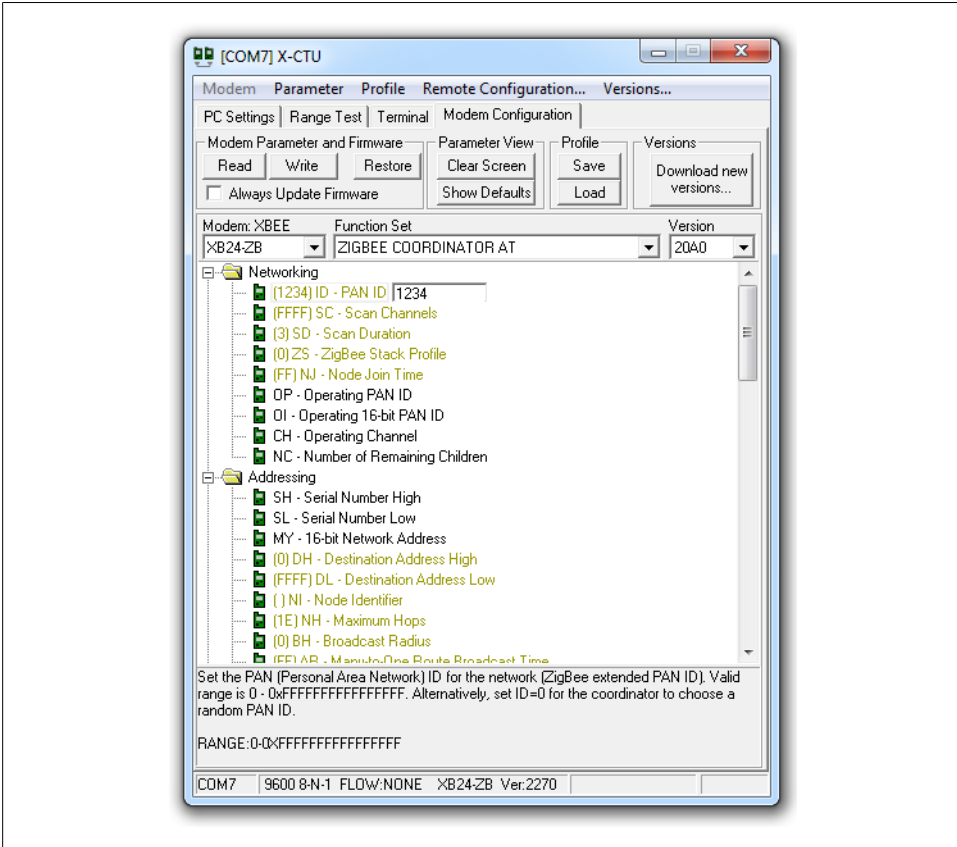

Figure 14-5. Configuring the XBee
If you have trouble getting your XBees to talk, make sure they both have the same type of firmware (e.g., XB24-ZB under the Modem: XBEE setting shown in Figure 14-5), and that they are both running the most current version of the firmware (the Version setting shown in Figure 14-5). For a comprehensive set of XBee troubleshooting tips, see Robert Faludi's "Common XBee Mistakes" at <http://www.faludi.com/projects/common-xbee-mistakes/>. For extensive details on working with XBees, see his book, *Building Wireless Sensor Networks*, published by O'Reilly (search for it on oreilly.com).
7. Change the PAN ID setting from 0 to 1234 (or any hexadecimal number you want, as long as you use the same PAN ID for all devices on the same network), as shown in Figure 14-5.
10. Next, leave X-CTU running and leave that XBee plugged in. Plug your second XBee in to a different USB port. Repeat the preceding steps (in step 2, you will be starting up a second copy of X-CTU), but instead of choosing ZIGBEE COORDINATOR AT in step 4, choose ZIGBEE ROUTER AT. On this XBee, you should also set Channel Verification (JV) to 1 to make sure it will confirm that it's on the right channel, which makes its connection to the coordinator more reliable.